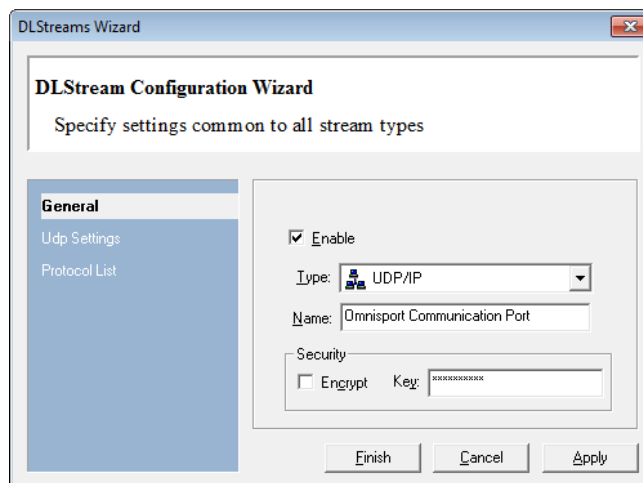

Figure 4: UDP/IP Setup
6. In the window that appears (*Figure 4*), select **UDP/IP** as the *Type* and then click **Apply** followed by **Finish**.